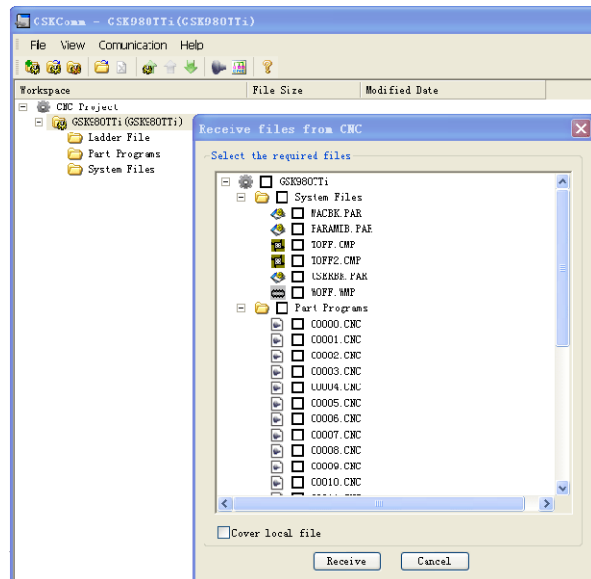

Fig.2
② After [Receive Files] is clicked, a dialog box about receiving files from the CNC, the required files from the CNC including part programs, tool compensation (TOFF. CMP), pitch compensation (WOFF.WMP), parameters (PARAM.PAR) as follows Fig.2;